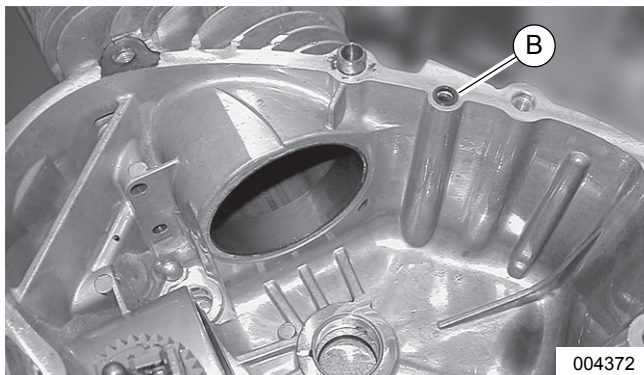

Figure 13-6. Crankcase Oil Passage O-Ring
- c. See Figure 13-6. Install new oil passage o-ring (B) in crankcase.